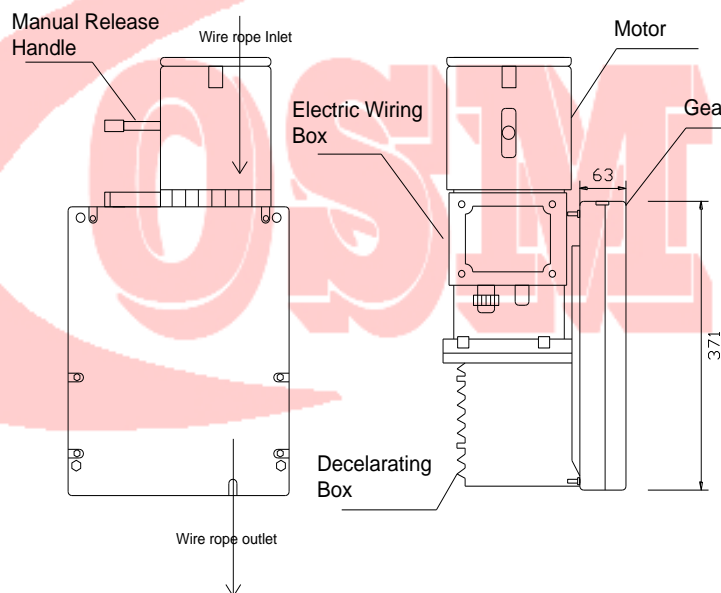

Figure 5 Main Components of Hoist
3.3.4 Main Components (See following Figure 5)